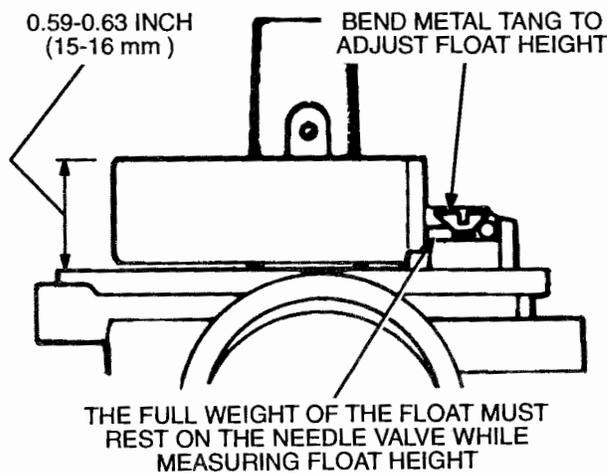

FIGURE 6-21. FLOAT LEVEL (GASOLINE)
2. See Figure 6-21. Check the float level as shown while the carburetor is still upside down. Measure the height above the bowl gasket flange on the side opposite the hinge. Make sure the full weight of the float is resting on the needle valve. Remove the float and bend the metal tang to adjust the height.